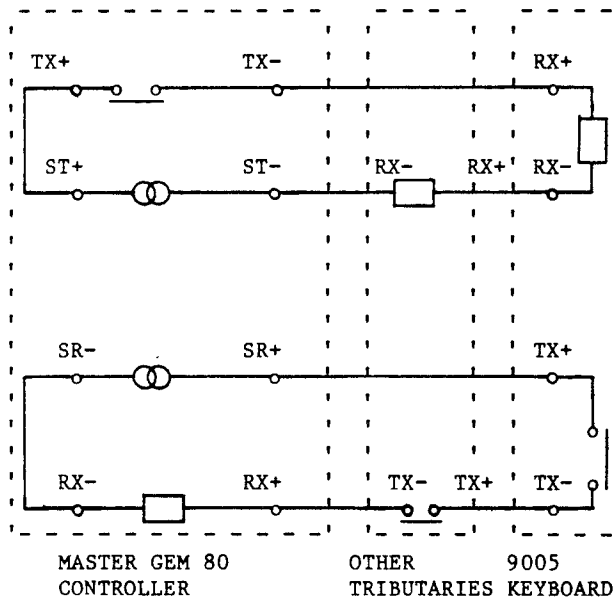

Figure 3.1 - Connecting the 9005 Tactile Keyboard to the ESP Serial Link
3.1.2 Figure 3.1 shows the typical connection to be made for the serial link. In addition to this, an external power supply is also required. A set of screw terminals are provided for both the serial link and the external power supply.